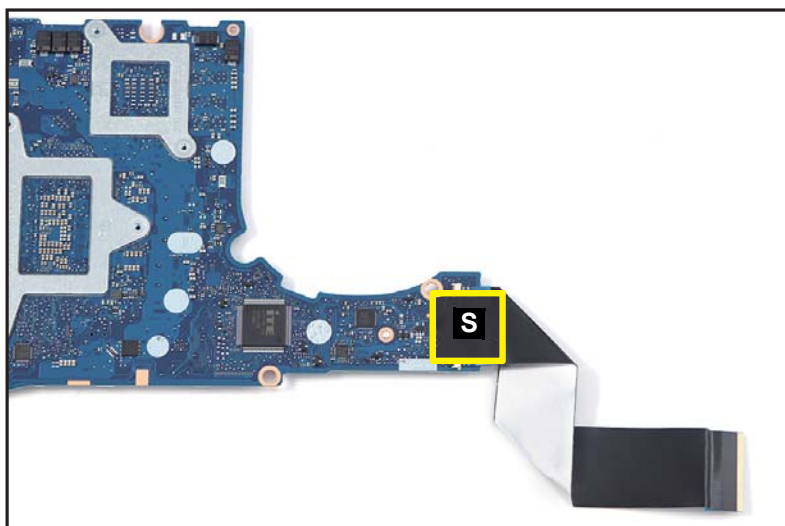

Figure 1-41. Mainboard Removal
15. Detach the tape (S) securing the FFC connection (Figure 1-41).